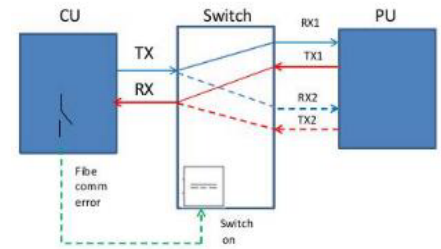

Figure 1 – Option 1 with switch (one PU only shown, for simplicity)
This topology caters for instances of breakage/disconnection of fiber optics. A fiber-optic switch is installed in the relay room, as close to the busbar central unit (CU) as possible. In a distributed scheme, there may be many tens, or even hundreds of meters of fiber runs, with each link and splice being a potential point of failure (however small this probability may be). Figure 1 shows that when the primary link RX1 or TX1 is faulty, the CU detects a fiber optic communications error and sends a command to the switch in order to switch to the standby communications (RX2-TX2) in all connected bay peripheral units (PUs).